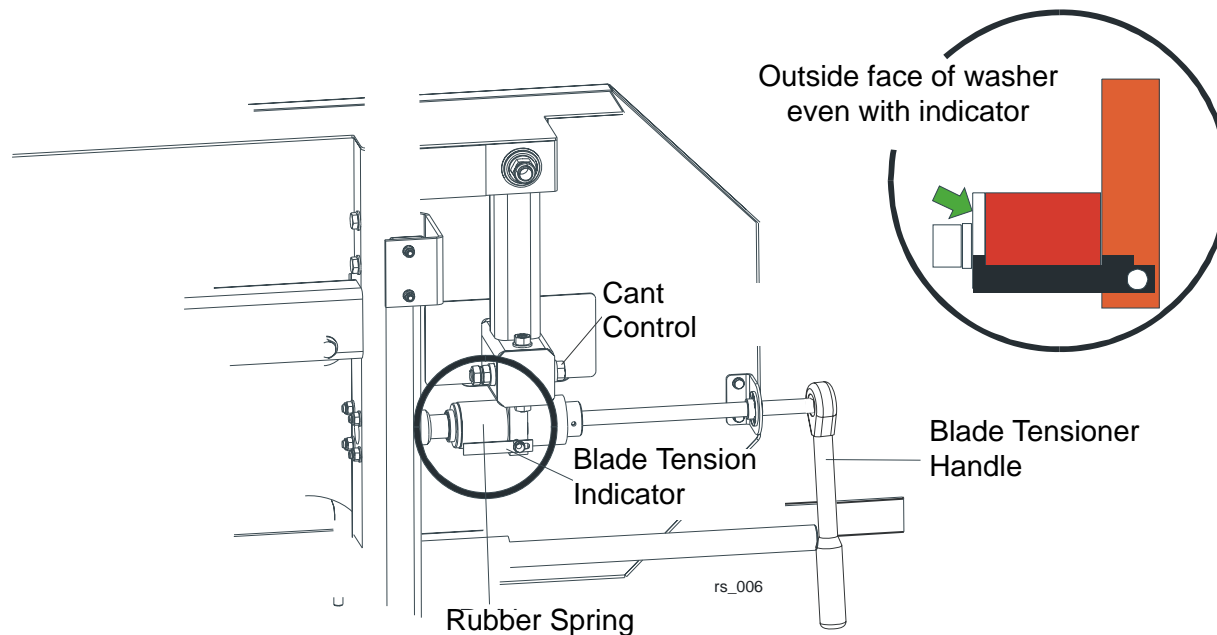

FIG. 2-13
See **Figure 2-13**. Place the provided ratchet on the blade tensioner shaft. Turn the ratchet clockwise until the outside face of the rubber spring washer is even with the indicator (see the figure below). Check the blade tension occasionally when adjusting the cant control or while cutting and adjust if necessary. As the blade and belts heat up and stretch, the blade tension will change. Also, ambient temperature changes can cause tension to change.
5. Use the cant adjustment bolt, shown in **Figure 2-13**, to adjust where the blade travels on the blade wheels.